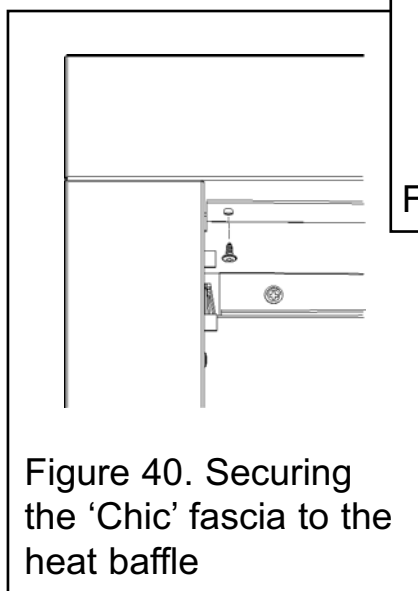

Figure 40. Securing the 'Chic' fascia to the heat baffle
- Secure the top of the fascia to the convection box using the two screws removed previously (See figure 40).